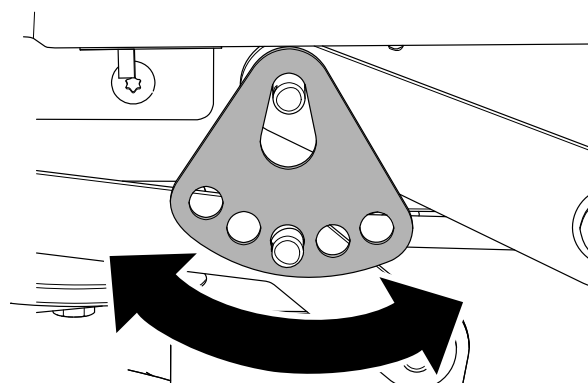

Figure 63
7. Rotate the height-of-cut plate to a different hole so that it supports the weight of the mower deck after you install the plate (Figure 63).
8. Install the washer and hairpin cotter (Figure 63).